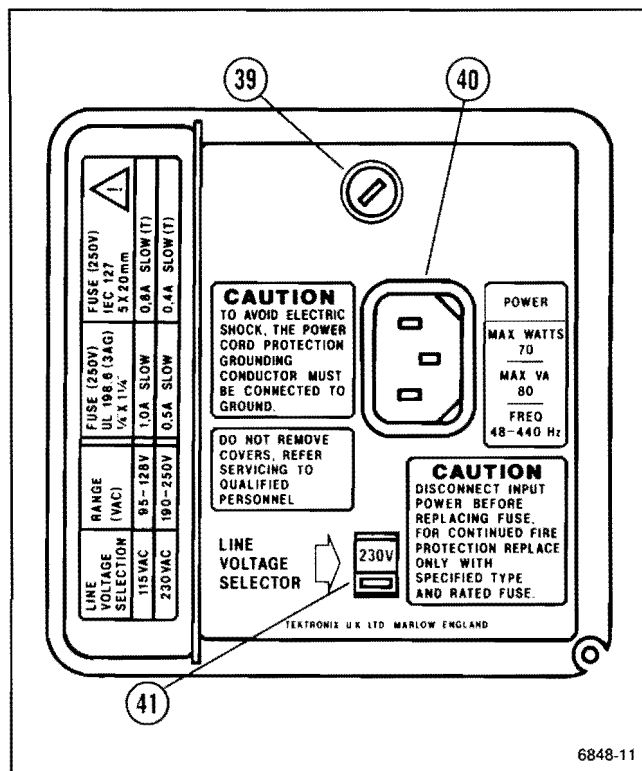

Figure 2-8. Rear Panel.
See Figure 2-8 for the location of items 39 through 41.
- ③⑨ **Fuse Holder**—Contains the ac-power-source fuse. See the rear panel nomenclature for fuse rating and line voltage range.